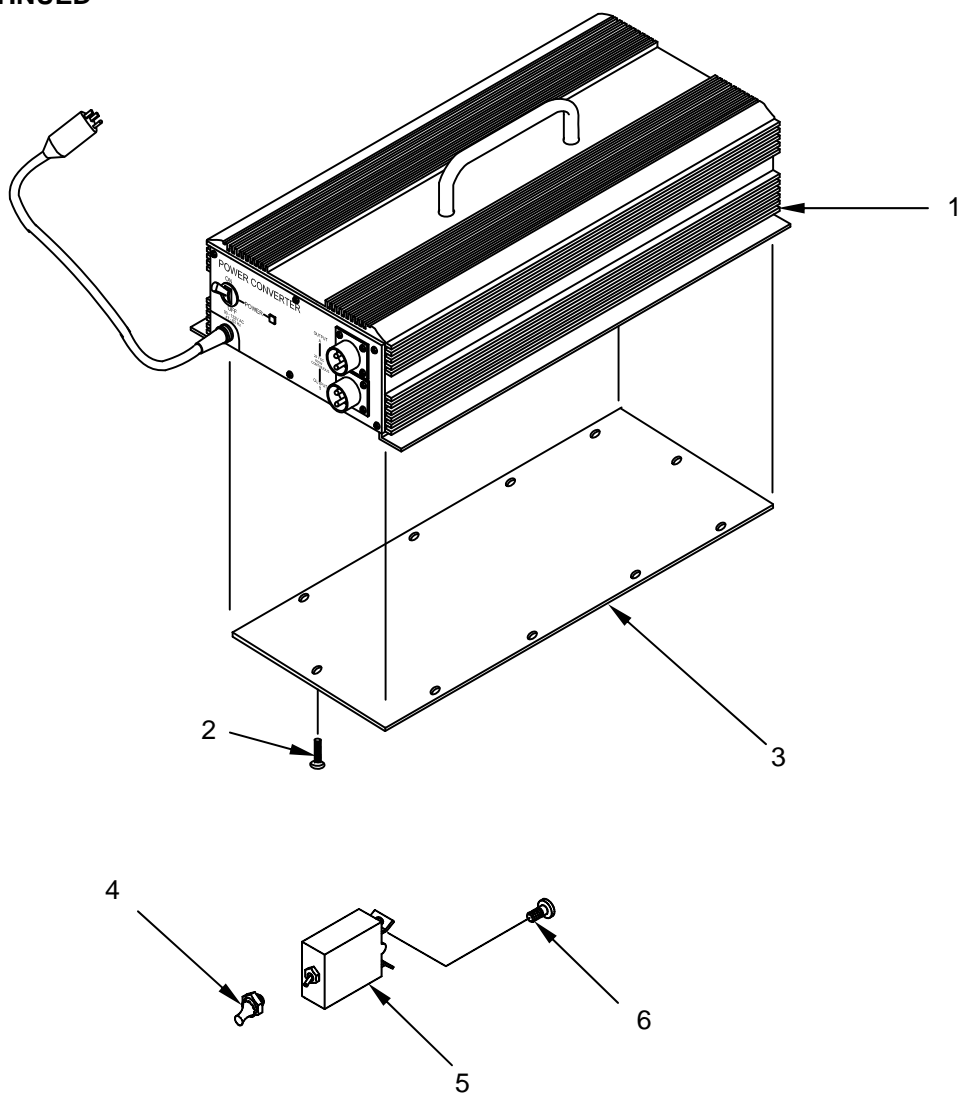

Figure 4. Replace the Main Power Switch (MS0160).
1. Remove the fasteners (Figure 4, Item 2) retaining the bottom cover of the power converter (Figure 4, Item 1), and then remove the bottom cover (Figure 4, Item 3). Retain the fasteners for reassembly.
2. Loosen and remove the hex nut with protective rubber cap (Figure 4, Item 4) of the main power switch (Figure 4, Item 5).
3. Reach inside the power converter case and withdraw the main power switch (Figure 4, Item 5) from the case as far as the wiring will allow.
4. Take note of the location, color, and connection point of the two wires connected to the main power switch (Figure 4, Item 5) inside the power converter to ensure that the wires are reconnected properly when the switch is replaced. Tag the wires as necessary.
5. Loosen and remove the fasteners securing the wires to the terminals on the main power switch (Figure 4, Item 5). Retain the fasteners for reassembly. Move the wires aside.
6. To install the main power switch (Figure 4, Item 5), reconnect the wiring to the switch as tagged and secure with the retained fasteners (Figure 4, Item 6).
7. Place the switch (Figure 4, Item 5) in position in the power converter's front panel. Be sure to position the switch so that the screw terminal labeled "LOAD" is facing up and out of the case while the terminal labeled "LINE" is facing down into the power converter case.
8. Install the hex nut with protective rubber cap (Figure 4, Item 4) on the front of the power switch (Figure 4, Item 5).
9. Install the bottom cover (Figure 4, Item 3) of the power converter (Figure 4, Item 1) and secure with the retained fasteners (Figure 4, Item 2).